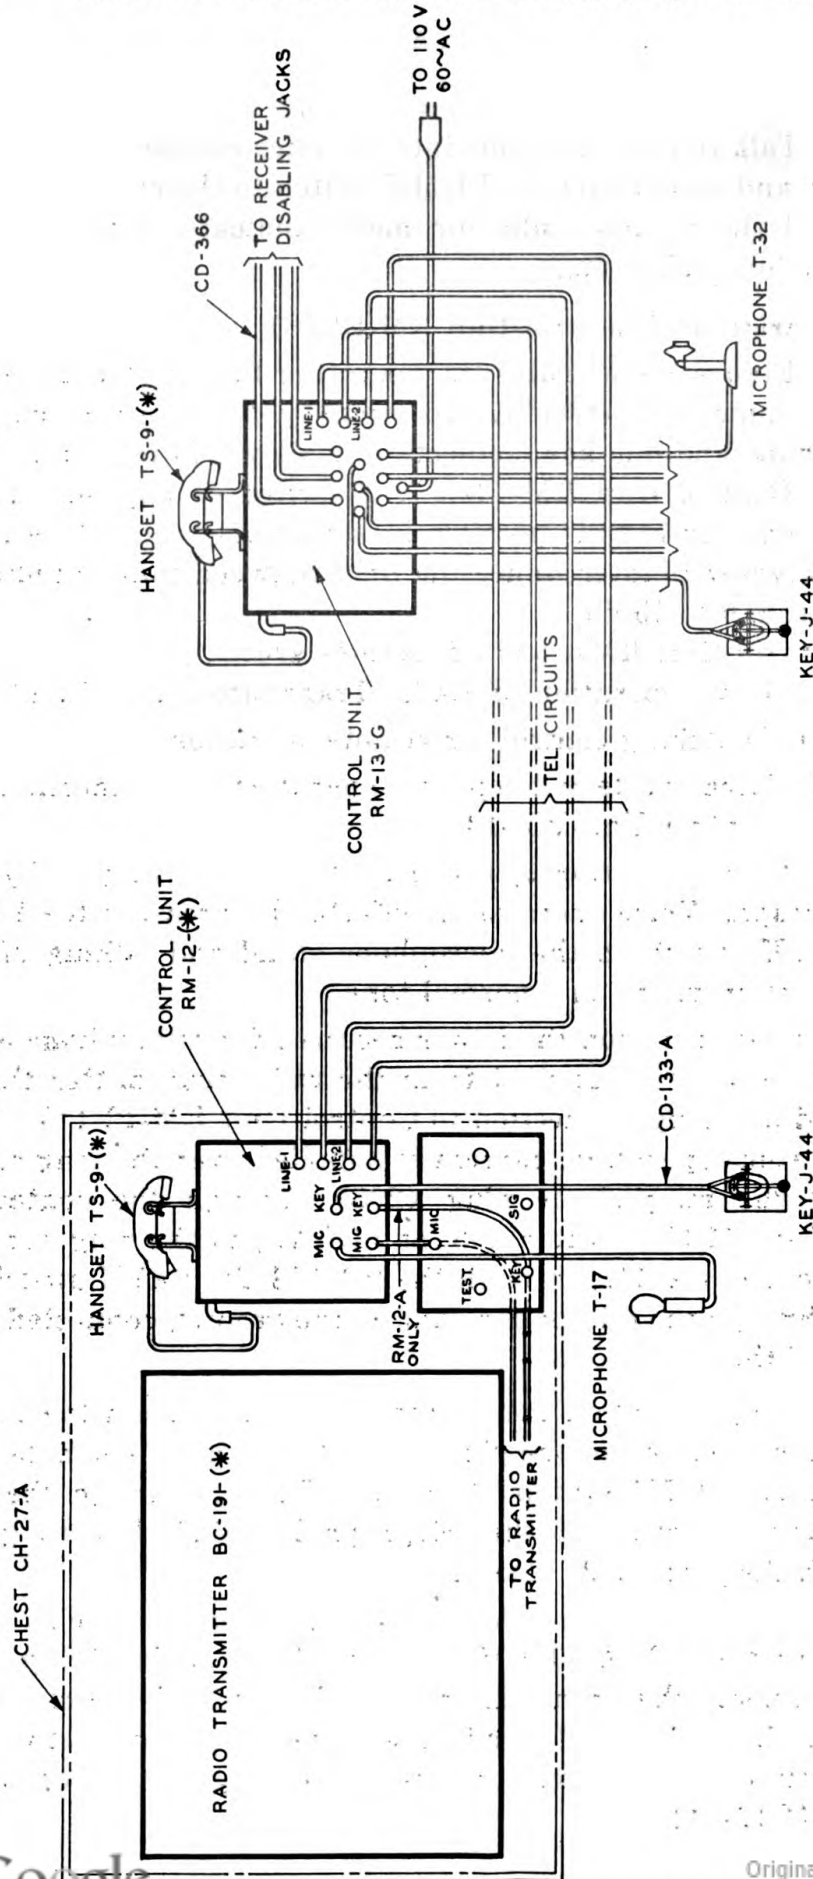

Fig. 9—Remote Control Equipment RC-47-(\*)—Operating Layout
*a.* Figure 9 illustrates the operating layout of Remote Control Equipment RC-47-(\* ). To simplify the diagram only one microphone and one key connection is shown in connection with Remote Control Unit RM-13-(\* ). Selection of any one of three microphones or keys is possible in actual operation. The loss in the two two-wire interconnecting lines between control units may range from 0 to 15 db.